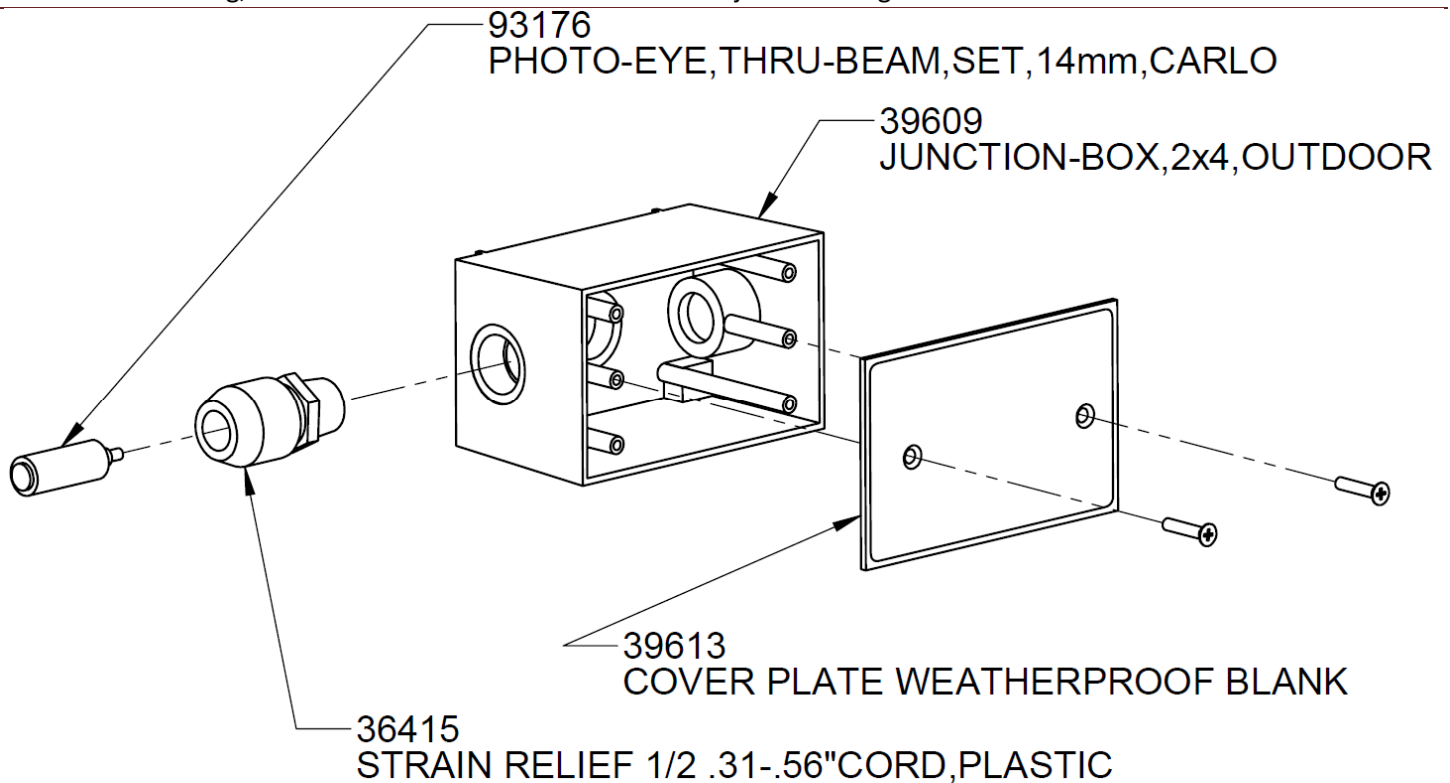

Figure 145 - Door Control Photoeye Assembly
- Assemble the photoeyes and the enclosures as shown in Figure 145. Note which eye is the receiving photoeye (black cable) and transmitting photoeye (gray cable). Make sure the photoeyes point directly at each other.